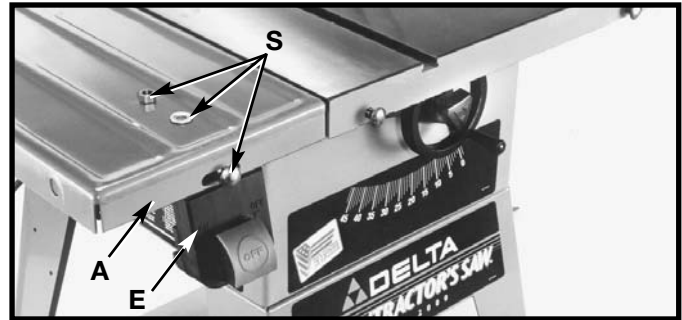

Fig. 36
3. Loosely assemble switch bracket (E) Fig. 36, to the rear of extension wing (A) and fasten with 3/8-16 x 1" long carriage head bolt through hole, then add flat washer, and hex nut (S). **Tighten after fence rail assembly.**